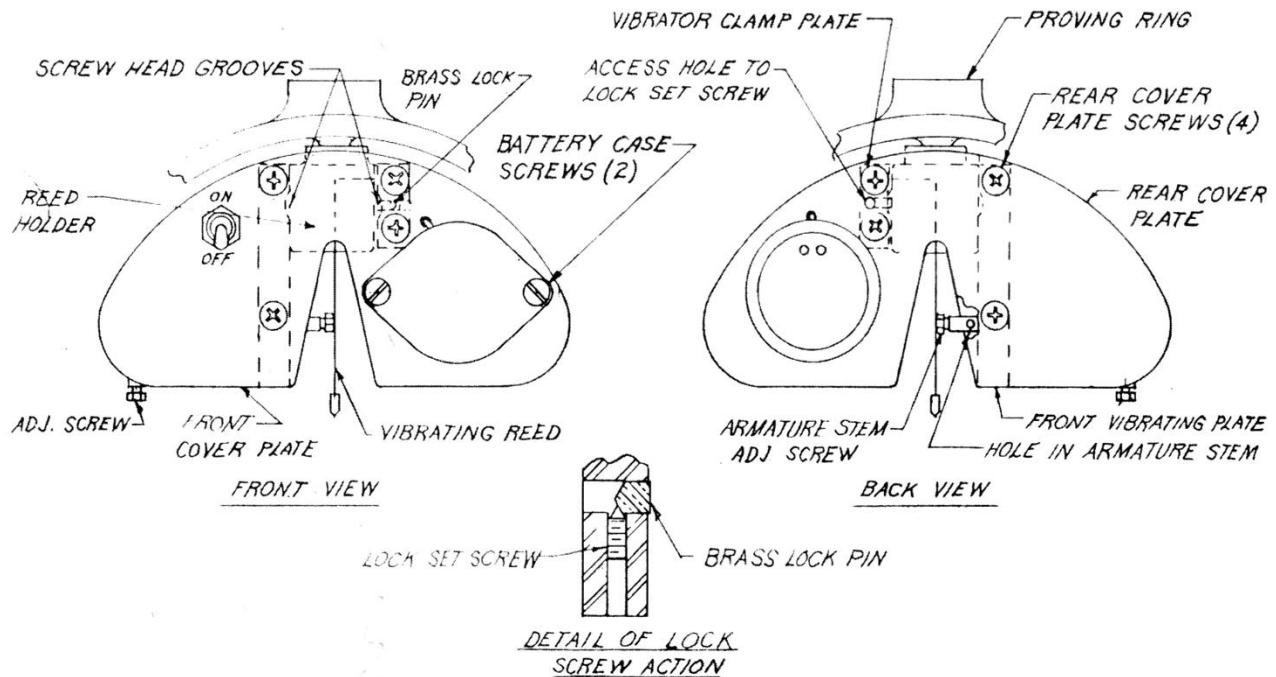

Figure 6-4: Detail of electric reed vibrator.
2. Refer to Figure 6-4, and notice the detail of the lock setscrew. The setscrew has a cone end which bears on the cone end of the brass lock pin. Turning the setscrew in forces the lock pin against the side of the reed holder. This action forces the electric reed vibrator square with and against the reed holder.